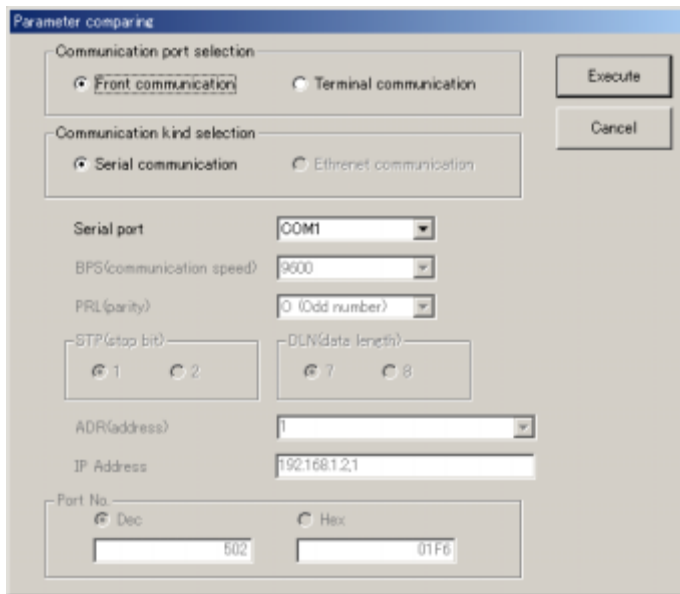

Figure 6.3.1 Parameter Comparing Dialog Box
The Parameter Comparing dialog box (Figure 6.3.1) appears.
- (1) On the menu bar, click **Communication**, and then choose **compare**. The Parameter Comparing dialog box (Figure 6.3.1) appears.
- (2) Click **Terminal communication**.
- (3) Click **Ethernet communication**.
- (4) Set the target controller's IP address and RS485 communication address in the **IP Address** text box.
- (5) Set the target controller's port number in the **Port No.** text box. The port number can be set in decimal or hexadecimal.
- (6) Connect the controller to the personal computer, and then click **Execute**.
- (7) When all parameter data match, a message appears saying "Non-matching parameter not detected." If any parameter value does not match, a message appears saying "Non-matching parameter detected. Do you want to see the list?"
- (8) Click **Yes** to open the Non-matching Parameters dialog box.